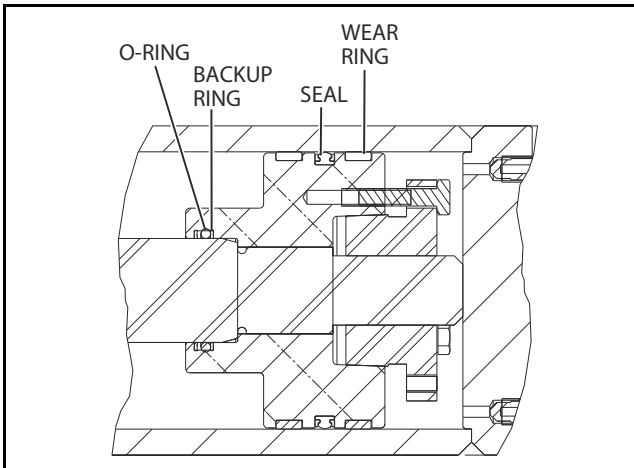

Figure 5-13. Piston Seal Kit Installation
15. Place seals in the applicable outside diameter grooves of the cylinder piston. (See Figure 5-13., Piston Seal Kit Installation).